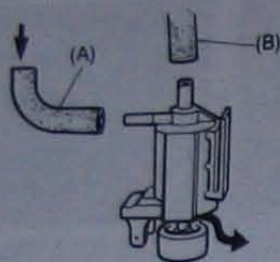
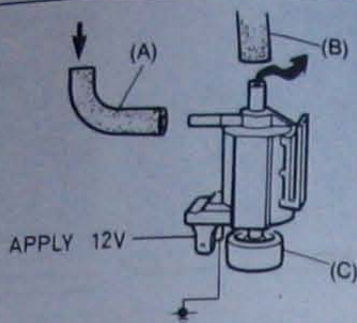

Fig. 5.9 Distributor three-way solenoid valve operation (Sec 9)
Fig. 5.10 Distributor three-way solenoid valve operation with battery voltage applied (Sec 9)
- 6 Disconnect the hose from the distributor vacuum unit and trace it back to the three-way solenoid valve. Disconnect the other hose from the end of the solenoid then disconnect the electrical connections and remove the solenoid from the car. Blow through the hose which was disconnected from the vacuum unit (A in Fig. 5.9) and check that the air comes out of the solenoid valve exhaust port. Then, using a 12 volt battery and two auxiliary wires, connect the battery across the solenoid terminals and blow through the hose (A) again. The air should now be expelled through the vacuum hose union (B) on the end of the solenoid valve (Fig. 5.10). If not the three-way solenoid valve is faulty and must be renewed.